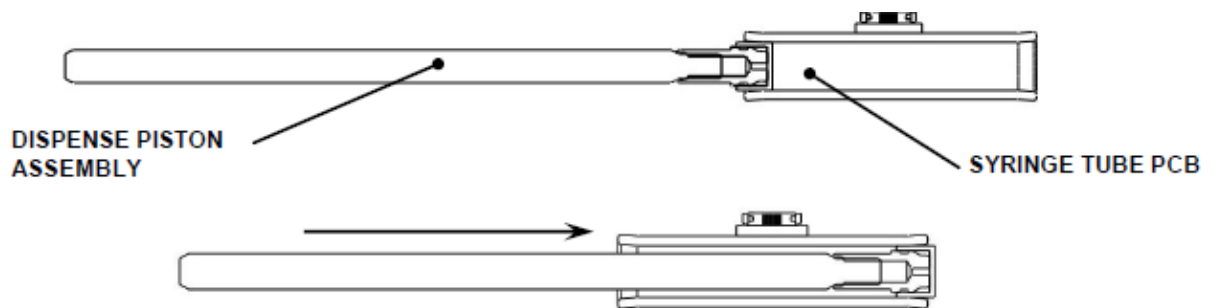

Figure U-23: Lubricating the Dispense Piston Assembly
3. Apply a small amount of Silicone Grease (Dow Corning 44) to the dispense piston assembly (Figure U-23). Lubricate the internal walls of the Syringe Tube PCB (13501770) with grease by pushing the dispense piston assembly in one direction through the dispense tube (5 times).